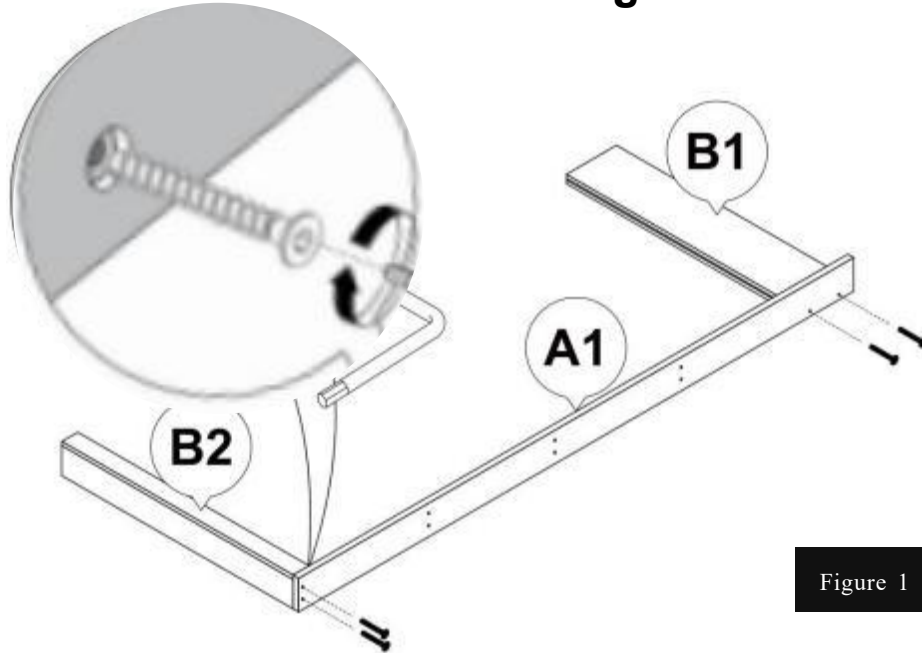

Figure 1
- According to Figure 1, to assemble the “B1” “B2” with the “A1” panel. Each side requires 2 carriage bolts to fix and fasten them with an alley key. Part B1 is designed with three holes at its top end. During installation, ensure that the side positioned closer to the holes is oriented away from the wall.